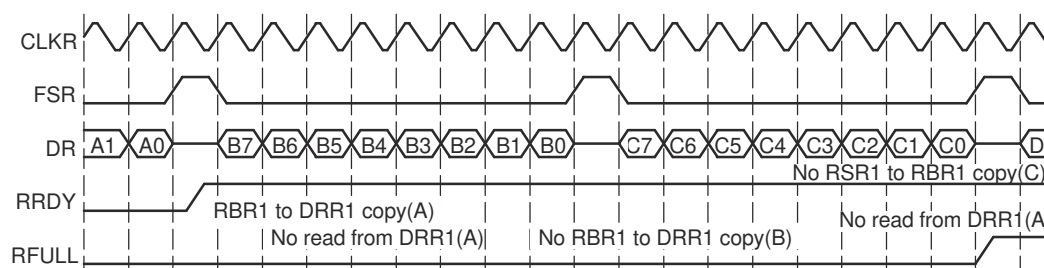

Figure 34-21. Overrun in the McBSP Receiver
Figure 34-21 shows the receive overrun condition. Because serial word A is not read from DRR1 before serial word B arrives in RBR1, B is not transferred to DRR1 yet. Another new word ©) arrives and RSR1 is full with this data. DRR1 is finally read, but not earlier than 2.5 cycles before the end of word C. Therefore, new data (D) overwrites word C in RSR1. If DRR1 is not read in time, the next word can overwrite D.